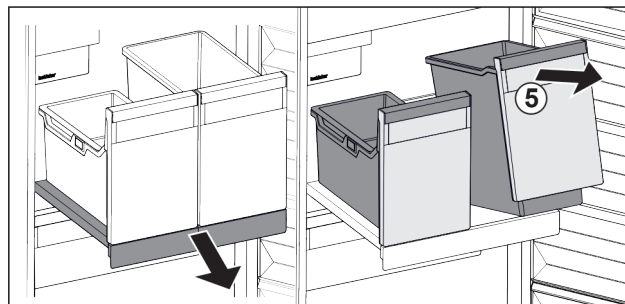

Fig. 117
- ▶ Lift the container Fig. 117 (5) at the front.